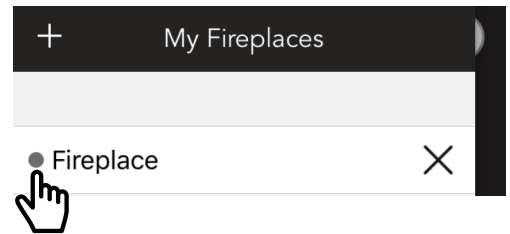

Fig. 6
6. Blue dot next to the fireplace name indicates that the fireplace is connected properly and ready to use (Fig. 6)